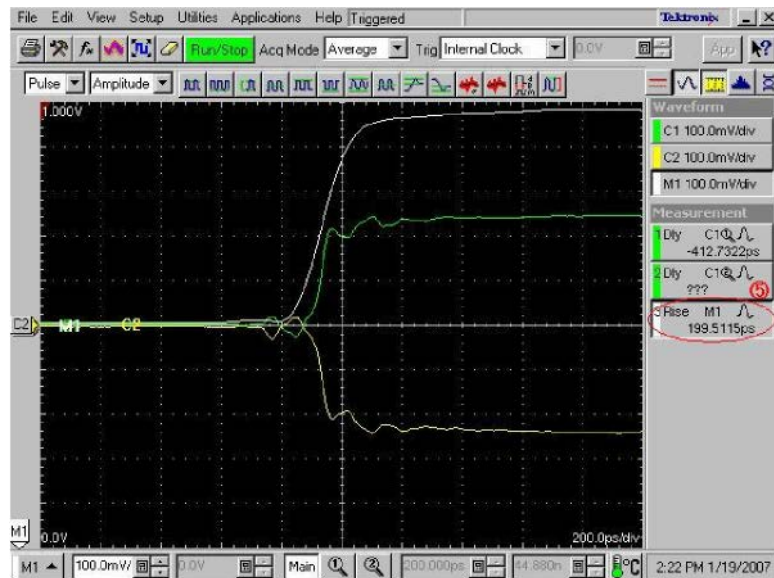
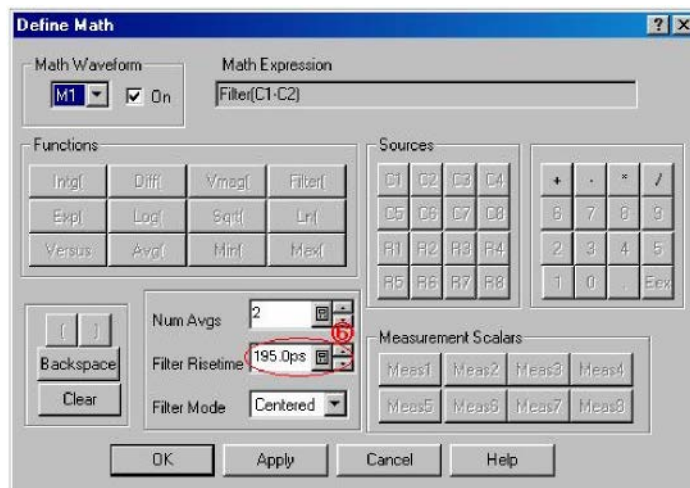

Figure 5: Adjusting the rise time
Figure 6: Changing the Filter Risetime value
7. For **Differential mode**, adjust the rise time so that the reading of ⑤ in Figure 5 is 200 ps by changing the **Filter Risetime** value (see ⑥ in Figure 6). If you cannot adjust the value to 200 ps exactly, set it to the nearest value below 200 ps.
If a cable length  $\leq 300$  mm, adjust the rise time so that the reading of ⑤ in Figure 5 to 50 ps by changing the **Filter Risetime** value (see ⑥ in Figure 6). If you cannot adjust the value to 50 ps exactly, set it to the nearest value below 50 ps in addition to 200ps.
8. For **Common mode**, adjust the rise time so that the reading of ⑤ in Figure 5 is 600 ps by changing the **Filter Risetime** value (see ⑥ in Figure 6). If you cannot adjust the value to 600 ps exactly, set it to the nearest value below 600 ps.
If a cable length  $\leq 600$  mm, adjust the rise time so that the reading of ⑤ in Figure 5 to 50 ps by changing the **Filter Risetime** value (see ⑥ in Figure 6). If you cannot adjust the value to 50 ps exactly, set it to the nearest value below 50 ps in addition to 600ps